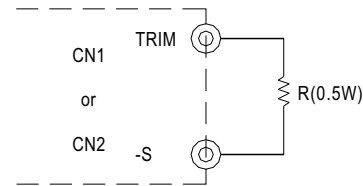

Fig 3.2 Output Voltage Trimming
- (2) Connecting resistor externally between TRIM and So to IC N2 has the same effect as Fig 3.2.